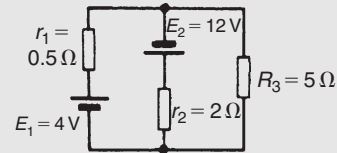

Figure 13.43
**Problem 10.** Determine the current in the  $5\ \Omega$  resistance of the network shown in Fig. 13.43 using Thévenin's theorem. Hence find the currents flowing in the other two branches.